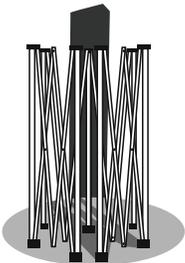

Fig. 1A
- 1 Take temporary protective sleeve as pictured in **(Fig. 1A)** off and discard.